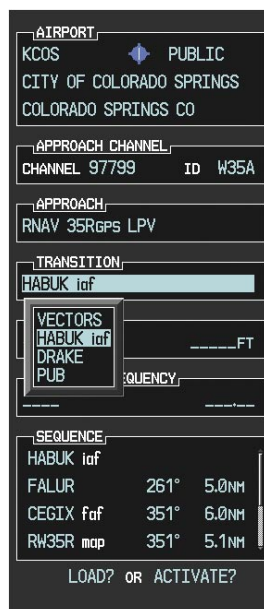

Figure 5-122 List of Available Transitions
e) Press the **ENT** Key. A list of available transitions for the selected approach is displayed as in Figure 5-122.